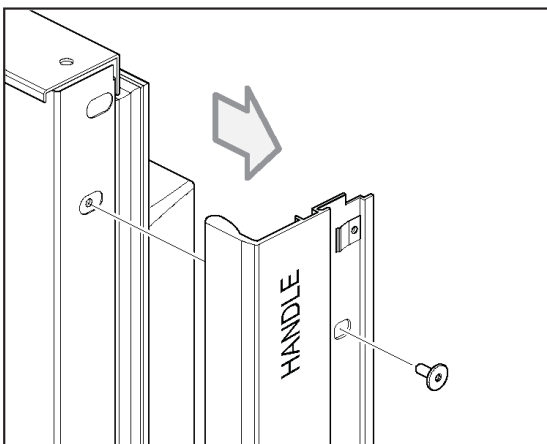

Figure 2-16A. Handle Removal
2. With a T-20, 6-lobe Torx type bit, extract the handle or handle-side trim mounting screws and pull the handle or trim from the door (See Figures 2-16A and 2-16B).